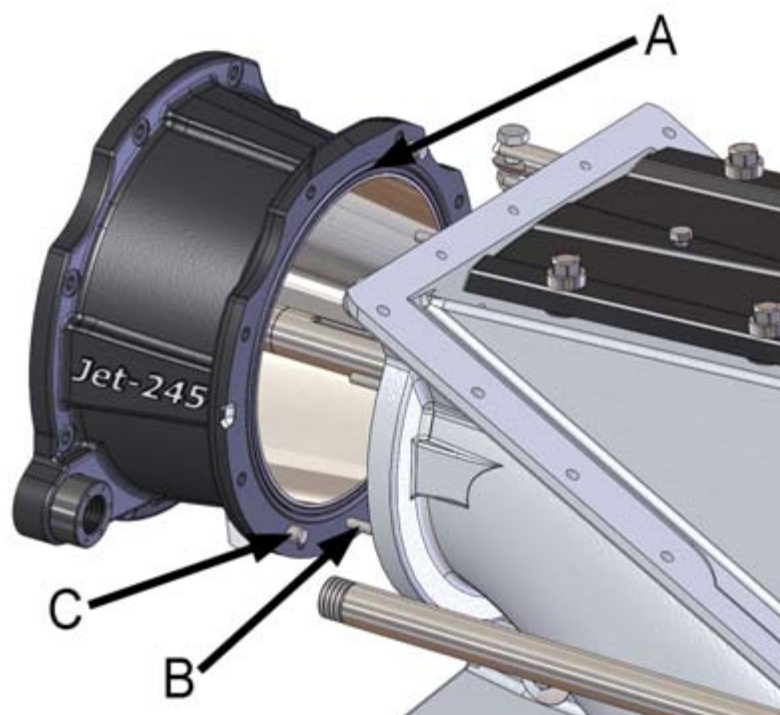

Figure 46. Installing the impeller duct
1. Ensure that the o-ring between the impeller duct and hull is in place. Apply waterproof petroleum jelly onto the connecting surface (such as Shell Gadus S2 V220AC or similar) (figure 46, point A).
2. Ensure that the clamping screws (8 pcs) are in their correct places in the hull. If they have come loose, they must be reinstalled with thread locking compound (such as Loctite 242) (figure 46, point B).
3. Ensure that the centring rods of the impeller ducts are in place (figure 46, point C).